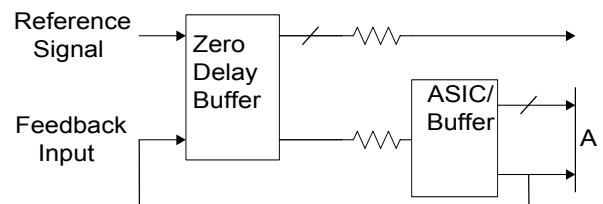

Figure 2. Six Output Buffers in the Feedback Path
Referring to *Figure 2*, if the traces between the ASIC/buffer and the destination of the clock signal(s) (A) are equal in length to the trace between the buffer and the FBIN pin, the signals at the destination(s) device will be driven HIGH at the same time the Reference clock provided to the ZDB goes HIGH. Synchronizing the other outputs of the ZDB to the outputs from the ASIC/Buffer is more complex however, as any propagation delay in the ASIC/Buffer must be accounted for.